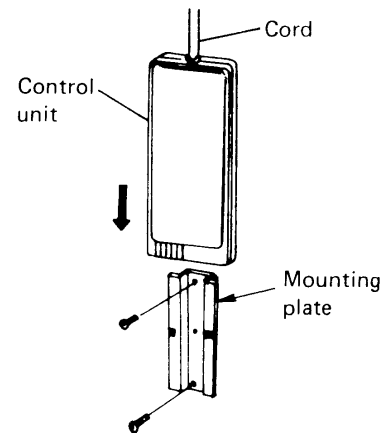

Fig. 19
- Fix the mounting plate on the wall with 2 screws, align the rail on the rear of the control unit and slide the unit down as far as it will go. Fig. 19